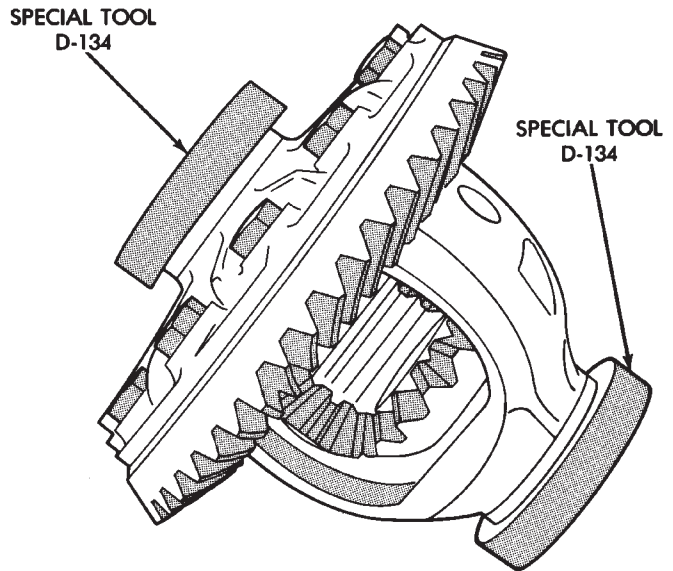

Fig. 39 Master Bearing Tools On Hubs
(1) Place Master Differential Bearing D-134 (D-348) on the case hubs (Fig. 39). Install differential case into housing.